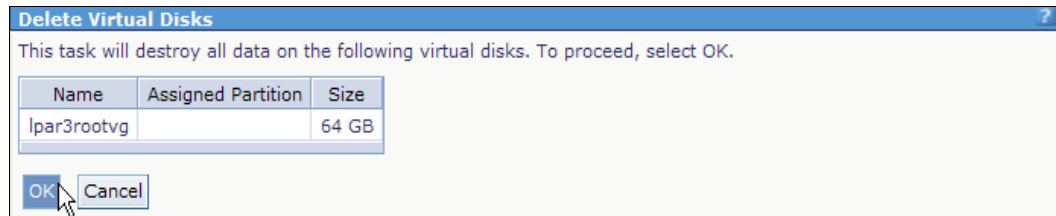

Figure 4-19 Virtual disk deletion confirmation
- Figure 4-19 shows the confirmation window that is displayed. Click **OK** to delete the virtual disk.